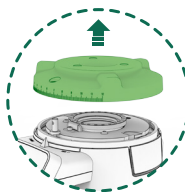
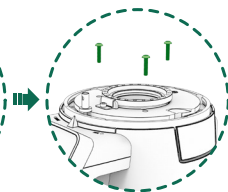

Fig. 7
Fig. 8
12.3.5. Remove the regulator by pulling upwards (Fig. 7). Loosen the upper burs support screws with a #3 Hex Allen key, according to (Fig. 8).